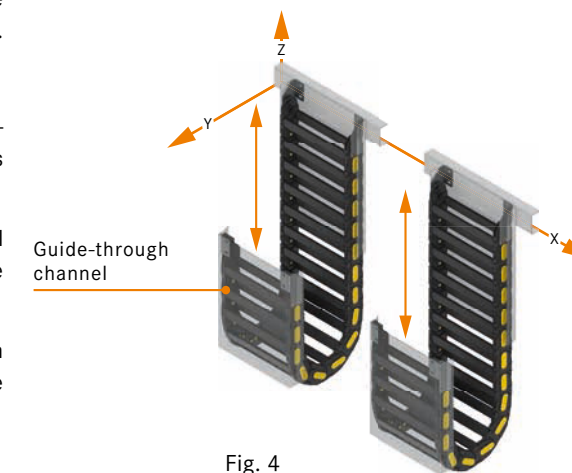

Fig. 4
- If the chain is affected by transversal accelerations (**Fig. 4**), a support (guide trough) is required